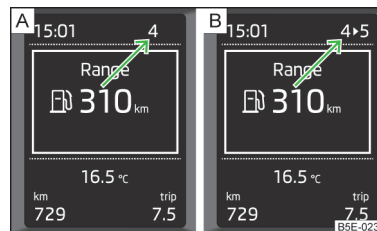

Fig. 7
■ Information about the currently-selected gear is shown in the upper part of the display » Fig. 7 - **A**.
When the system determines that a change in gear is required, the arrow symbol ► and the recommended gear appear next to the current gear indication » Fig. 7 - B.